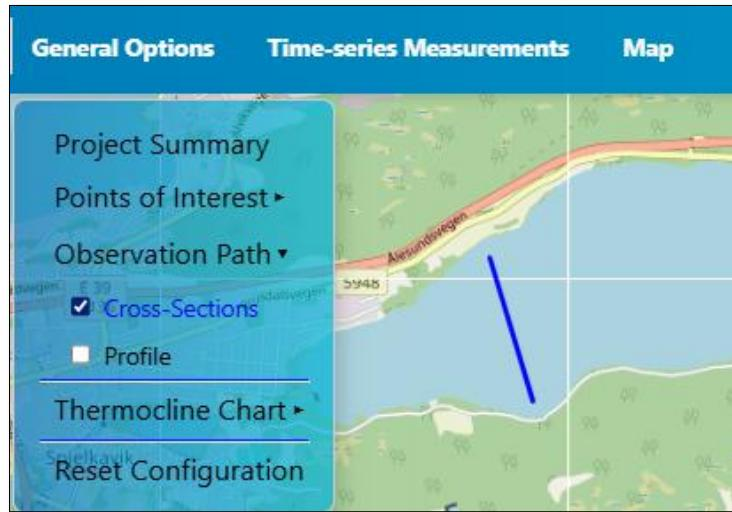

Figure 4.6. Cross-Sections option
- ❖ *Observation path*: This option allows the user to show or hide “**Cross-Sections**” (if HYD simulation has this in output) and define “**Profile**” from an available map (**Figure 4.6**).